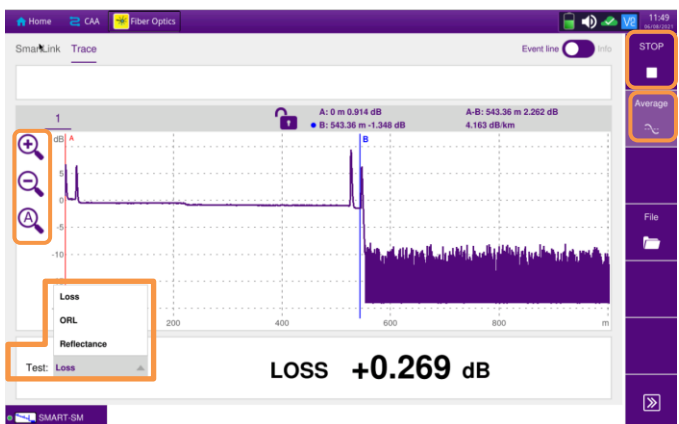

Figure 9: Trace View, Loss Result
8. **Figure 9** shows **Loss** measurement, **Figure 10** shows **ORL** measurement, and **Figure 11** shows **Reflectance** measurement.